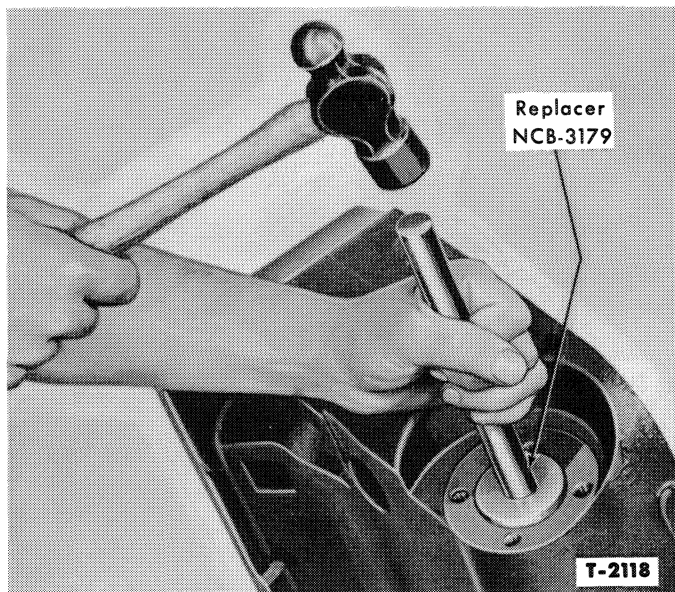

Figure 16—Removing or Installing Pedestal Sector Shaft Bushings
6. Drive two sector shaft bushings from the sector shaft bore using Tool NCB-3179, as shown in Figure 16.
12. The sector shaft bushings can be removed and installed with the pedestal either on or off the tractor. Use Tool NCB-3179 to drive the bushings out or to install the bushings, Figure 16.